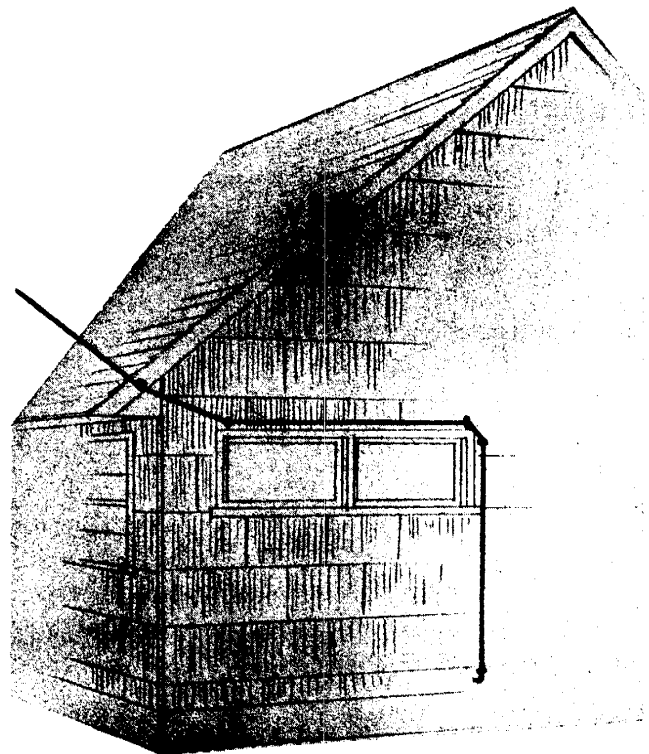

Fig. 6 — Horizontal Drop Run
- Place horizontal run above the reach of the public (see Fig. 6).